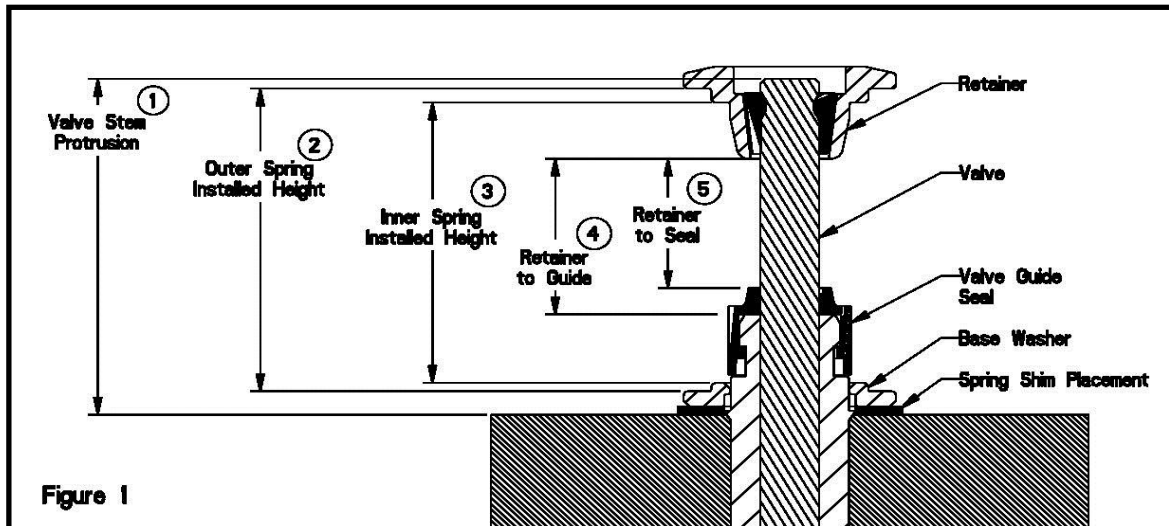

Figure 1
1. Stem Protrusion is measured from the tip of the valve stem to the cylinder head. See Figure 1.
2. Outer spring installed height is measured where the outer spring contacts the retainer and lower component when assembled. See Figure 1.
3. Inner spring installed height is measured where the inner spring contacts the retainer and lower component when assembled. See Figure 1.
4. Retainer to guide clearance is the distance between the valve guide (w/o the seal) and the bottom of the retainer, with the valve in the closed position. See Figure 1 and Notes 3 & 4.
5. Retainer to seal clearance is the distance between the valve stem seal and the bottom of the retainer, with the valve in the closed position. See Figure 1 and Notes 3 & 4.